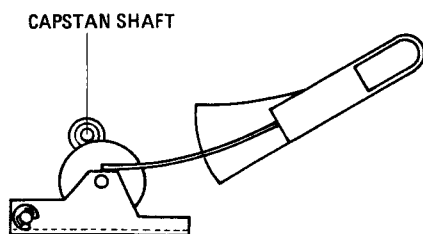

Fig. 6-1 PINCH ROLLER PRESSURE MEASUREMENT
2. Attach a suitable spring scale as illustrated in Fig. 6-1 to the pinch roller shaft and gently move the scale away (in the direction of the arrow) until the capstan and pinch roller are separated.